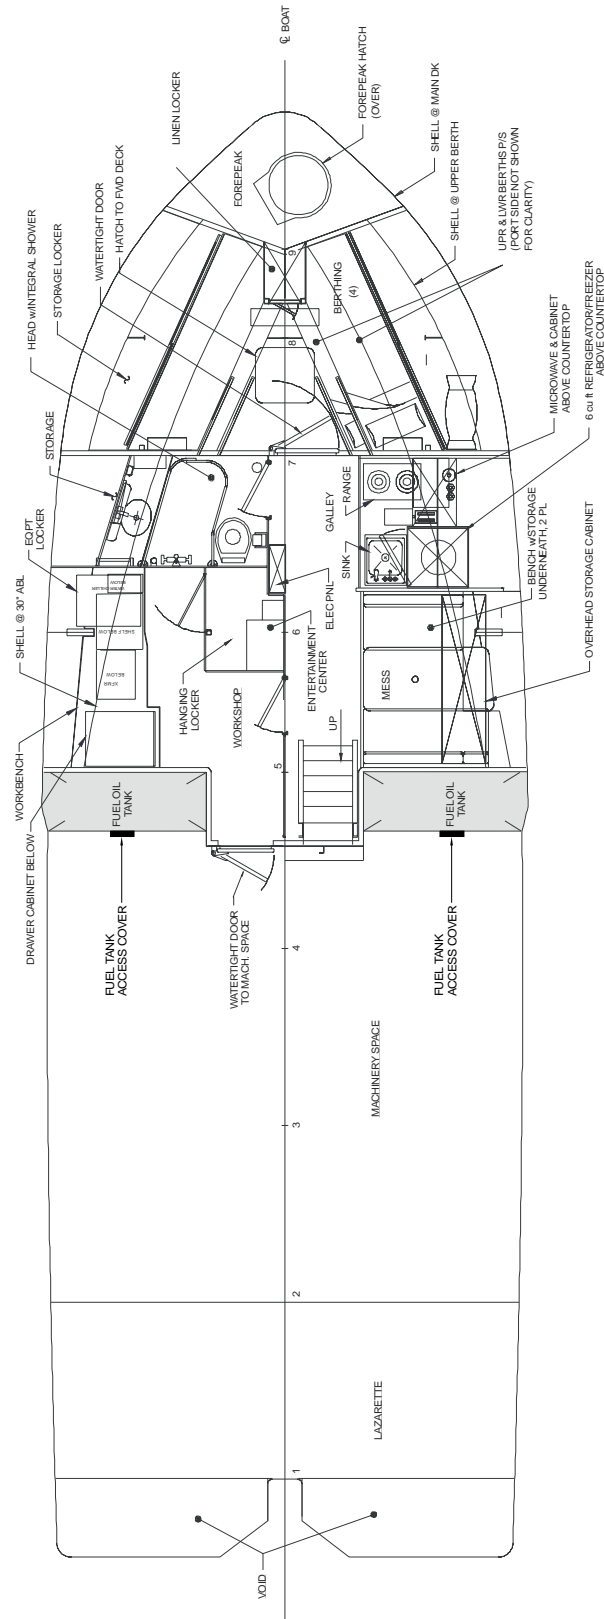

Figure 2-7
B.7. Location The fuel tanks are located forward of the machinery space on the port and starboard sides between bulkheads 4A and 5. Access covers are located at bulkhead 4A, inside the machinery space. **(See figure 2-7.)**